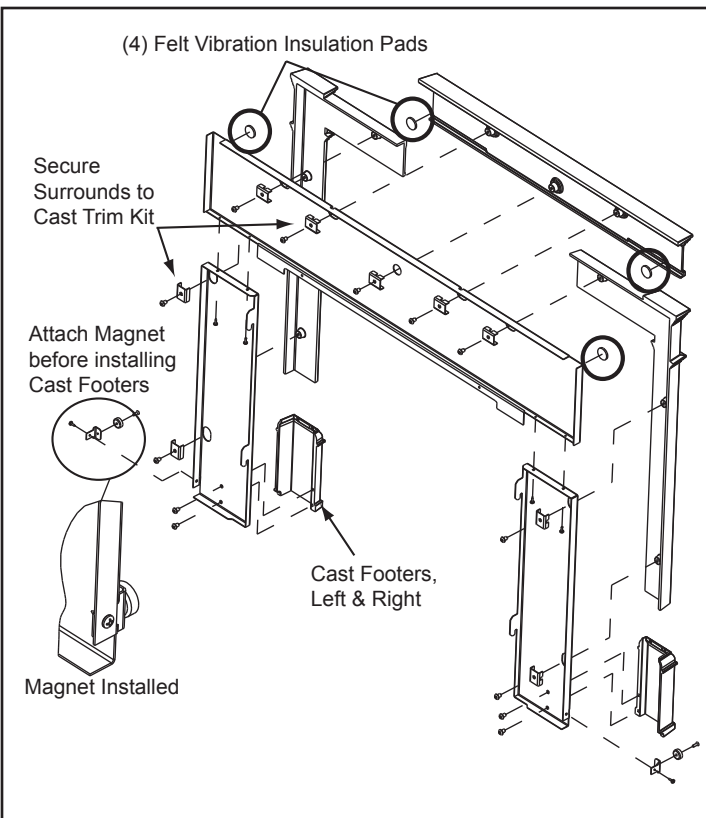

Figure 43.1
3. Using a 4 to 6 inches long Phillips head screw driver attach the side surrounds to the top surround using (2) #8 sheet metal screws on each side provided with the kit
4. Place the peel and stick round felt vibration insulation pads on the front side in each corner of the top metal piece and on the back side in each corner of the top cast piece. **Figure 43.1.**